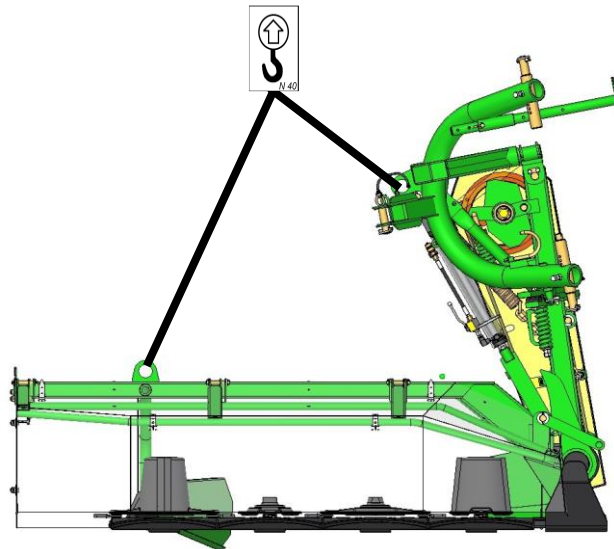

Fig. 4. Transport holders
- ❑ Grab the mower by any lifting devices only in places indicated by hook sign (Fig. 4),